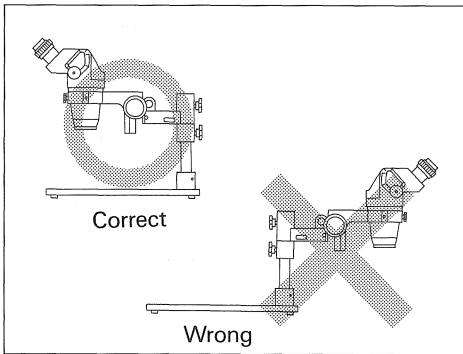

Fig. 1
- (1) After the equipment has been used in an observation of a specimen that is accompanied with a potential of infection, clean the parts coming in contact with the specimen to prevent infection.
- (2) Be sure to place the large-size microscope stand on a stable, horizontal surface that has a slope of less than 5°.
- (3) Be sure to correctly position the arm which is indicated as "o" in Fig. 1. Attaching the arm backwards may cause the stand to fall over, causing damage. (Fig. 1)
- (4) Certain load restrictions apply to the stand, as shown below: